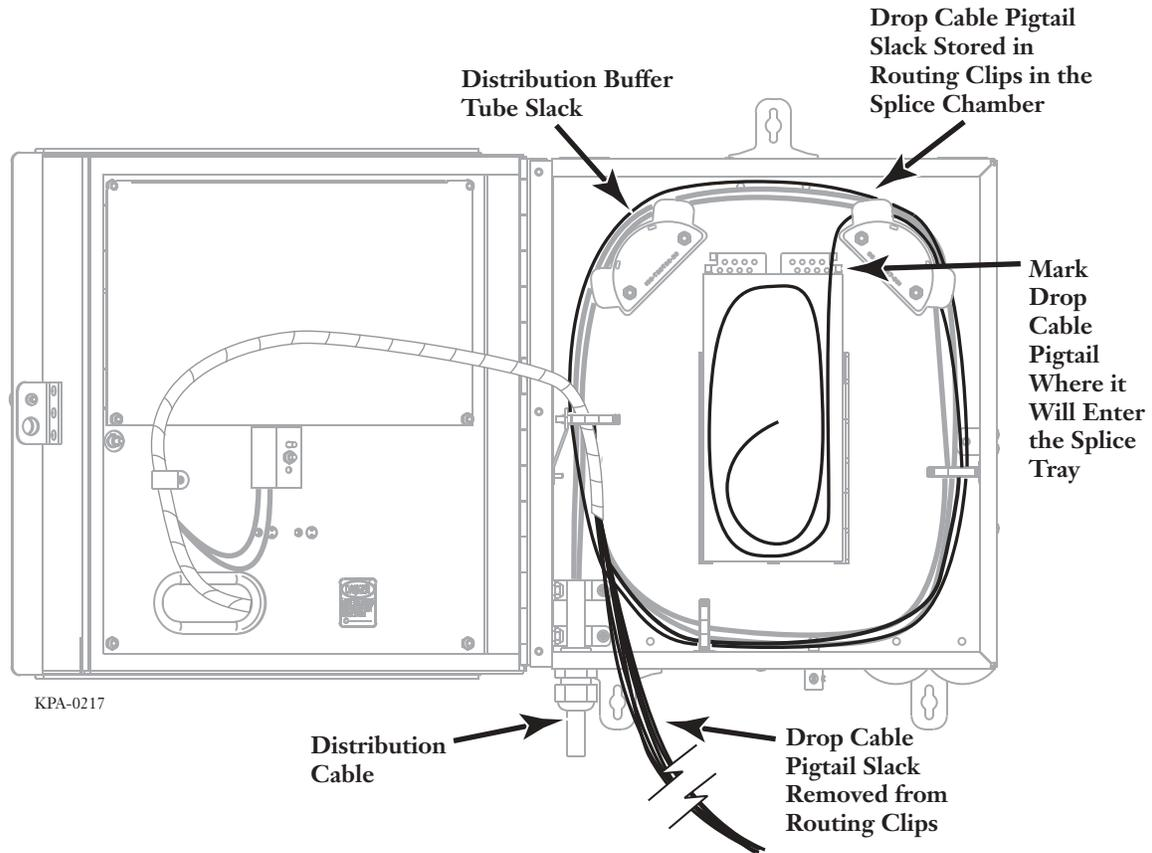

Figure 2 — Mark Pigtail Jacket
Step 1 Route each drop cable pigtail to the splice tray and mark the jacket where the pigtail will enter the tray (Figure 2). Remove each pigtail from the clips in the splice chamber. Pay attention to the direction the slack is routed through the clips. After splicing is complete, you will replace the pigtail slack in the same orientation.